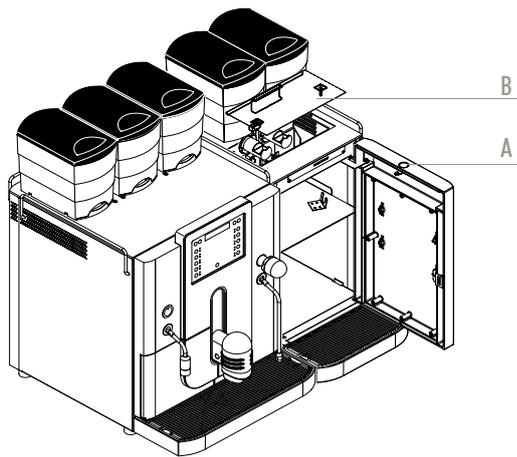

Figure 13
2. Open the front door of the powder module with the key (Fig. 13, Pos A).
3. Unlock and remove the cover before deposit powder hoppers (Fig. 13, Pos. B).
4. Closing the yellow closing caps (03). Lift the front of the container slightly and attract them against you. Empty the containers.
5. Remove the two parts of the powder injection (02) with turning clockwise and move forward.
6. The white plastic hose (09) beside the mixer cup (07), can be removed by dragging is. On the other hand, the connector (10) will be open.
7. Turn the yellow ring (08) of the mixer cup against the watch hand (07).
8. Remove it and separate the mixer cup (06).
9. Open the black plastic cover flap (04) and remove the foam filter (05).